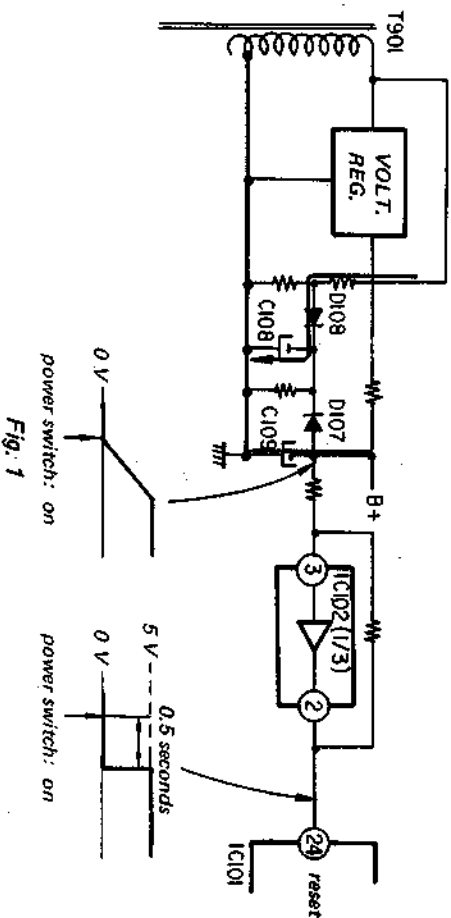

Fig. 1
1. When the POWER Switch is Turned on (See Fig. 1):